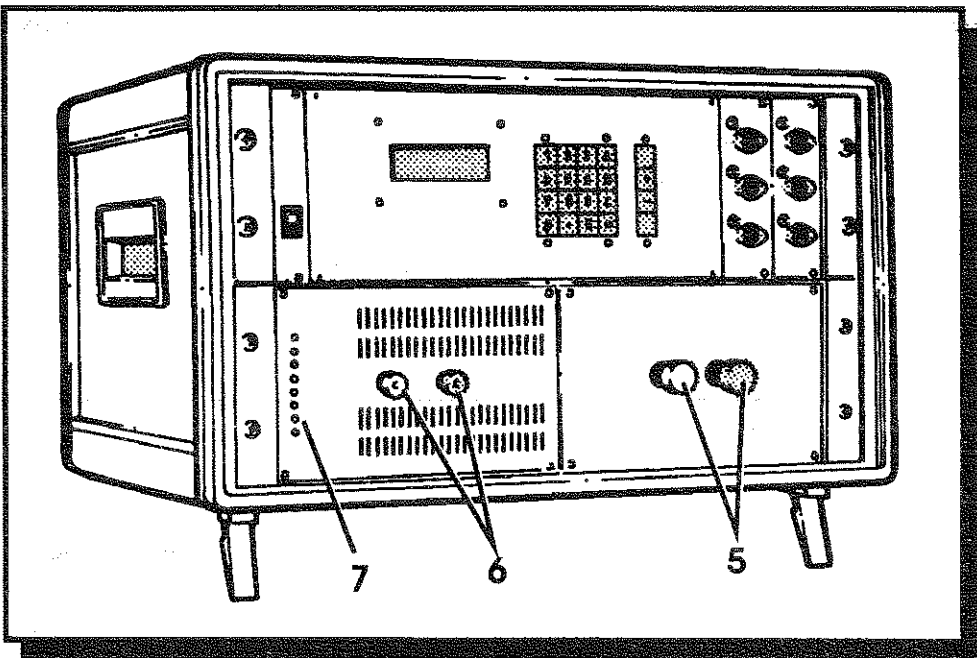

Fig. 3.3b MTB1 Front Panel
5) Current Terminals (Refer to Fig. 3.3b)